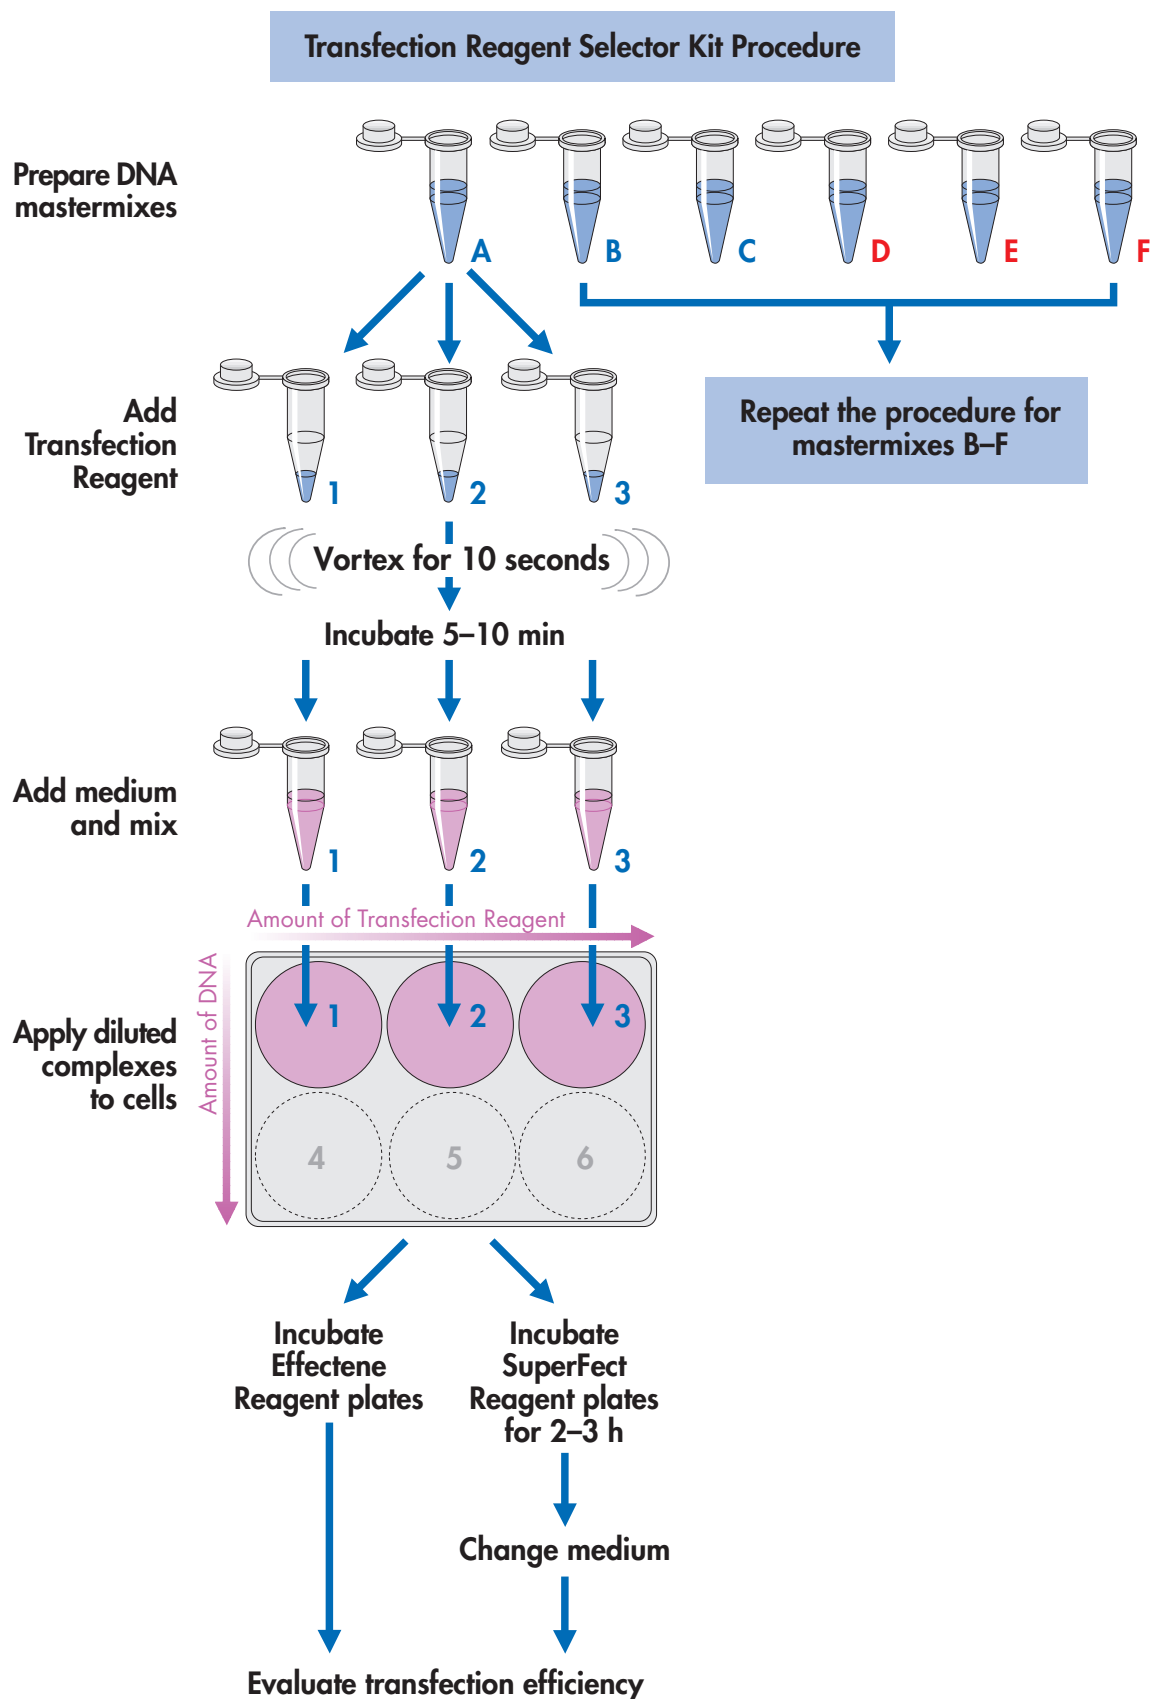
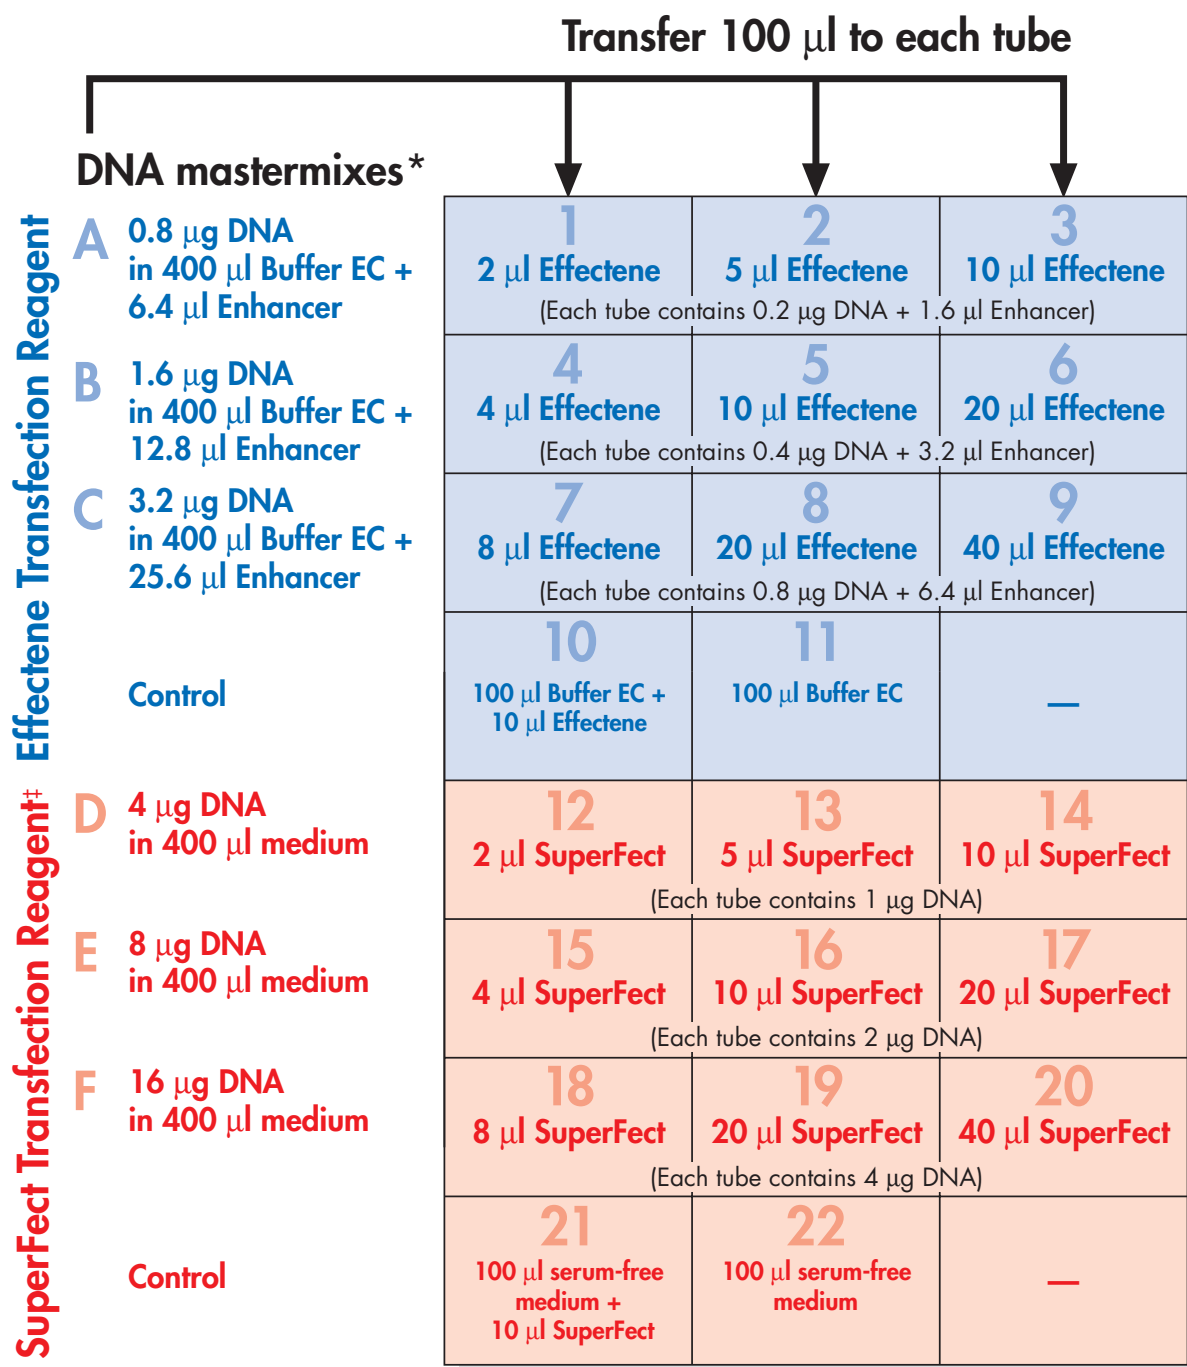

Figure 1. Procedure for Transfection Reagent Selector Kit.
Figure 2. Pipetting scheme for selector protocol with adherent cells in 6-well plates[†]
This selector protocol enables you to determine the best reagent and optimal transfection conditions for your cells by testing 9 different transfection conditions for each QIAGEN Transfection Reagent. The transfection mixes contain different amounts of DNA and DNA–Transfection Reagent complex, and different ratios of DNA to Transfection Reagent. The selector protocol procedure is illustrated schematically in Figure 1 and the corresponding pipetting scheme is provided in Figure 2. Two controls for each QIAGEN Transfection Reagent are also included in the protocol. The Reagent-but-no-DNA control checks whether the reagent was toxic to the cells, and the no-DNA-no-reagent control checks whether the cell culture conditions were correct. The reagent and transfection conditions yielding the highest transfection efficiency should be used for future experiments using the same cell line/plasmid DNA combination. In this protocol, two 6-well plates are used for testing each QIAGEN Transfection Reagent.
NOTE: For transfection of suspension cells in 6-well format, better results may be obtained by using approximately 80% of the SuperFect Reagent volumes indicated in Figure 2.
The following steps for complex formation refer to the pipetting scheme outlined in Figure 2 on page 12.
11. To **tubes 1–9 and control tube 10**: add the volume of **Effectene Reagent** specified in Figure 2 on page 12 to the condensed DNA solution. Mix by pipetting up and down 5 times, or by vortexing for 10 seconds.
12. To **tubes 12–20 and control tube 21**: add the volume of **SuperFect Reagent** specified in Figure 2 on page 12 to the DNA solutions. Mix by pipetting up and down 5 times, or by vortexing for 10 seconds.
The optimal quantity of plasmid DNA used for transfection is determined by the properties of the transfected plasmid which include: type of promoter, origin of replication, and plasmid size. Toxic effects may arise if too much plasmid with a high expression rate is used. Conversely, if insufficient plasmid with a low expression rate is used, gene expression may be too low. Therefore, optimization of plasmid DNA concentration should be performed for every new plasmid and/or new cell line used. A pipetting scheme for optimizing the amount of DNA for transfection in 6-well plates is provided in Figure 2 on page 12.
The ratio of Transfection Reagent (μl) to DNA (μg) is an important factor to optimize for every new cell line and DNA construct used. Optimal binding of Transfection Reagent–DNA complexes to the negatively charged groups (e.g. sialylated glycoproteins) on the cell surface requires a slightly net positive charge. For Effectene Reagent, the overall charge of the Transfection Reagent–DNA complex is determined by the ratio of Transfection Reagent to DNA–Enhancer mixture. For SuperFect Reagent, the overall charge of the Transfection Reagent–DNA complex is determined by the ratio of Transfection Reagent to DNA. Figure 2 on page 12 represents a pipetting scheme for optimizing the ratio of DNA to Transfection Reagent for transfection of adherent cells or suspension cells in 6-well plates.